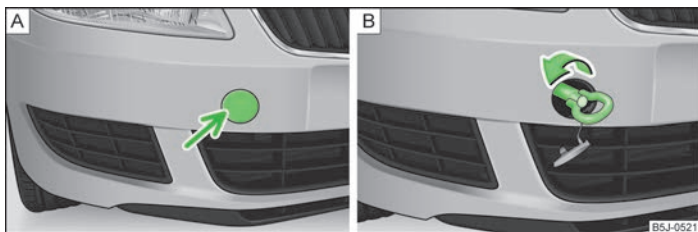

Fig. 140 Front bumper: Cap/installing the towing eye
- Press on the left half of the cap in the area of the arrow » Fig. 140 - A.
- Screw in the towing eye by hand to the left up to the stop » Fig. 140 - B. For tightening purposes, we recommend, for example, using the wheel wrench, towing eye from another vehicle or a similar object that can be pushed through the eye.